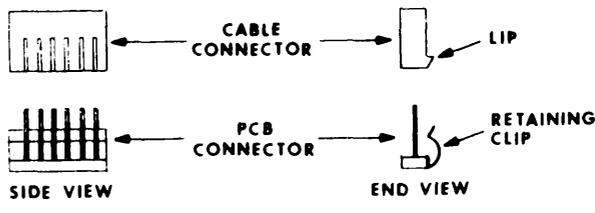

Figure 5-3. Connector Alignment
**PRINTED-CIRCUIT BOARD CONNECTORS** – When reinstalling a cable connector on a printed-circuit board, be sure the connector is properly aligned with the board connector pins and that the connector faces the proper direction (see Figure 5-3).